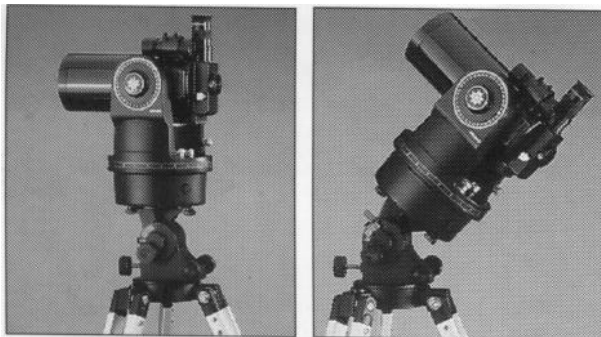

Fig. 3. (left) The ETX Astro Telescope on Field Tripod oriented for land viewing; (right) The polar-aligned ETX, ready for astronomical viewing.
Note: By following the procedures listed above, the ETX telescope is polar aligned for most celestial observing applications. See Figure 3. Approximate polar alignment is sufficient in the great majority of these applications. Do *not allow a time-consuming effort at precise polar alignment to interfere with your basic enjoyment of the telescope, as such precise alignment is, in general, not required.*
In land viewing applications, the three legs of the Field Tripod may be positioned in an arbitrary orientation. The telescope mounting, however, should be placed in a horizontal position: (Fig. 3) by turning the fine latitude adjustment knob (4) Fig. 1 to read 90° unlocking and re-locking the latitude lock knob (10), Fig. 1, to accomplish this adjustment. The ETX's motor drive should be turned off in terrestrial applications. Use the telescope's R.A. and Dec slow-motion controls for fine motion in horizontal and vertical.